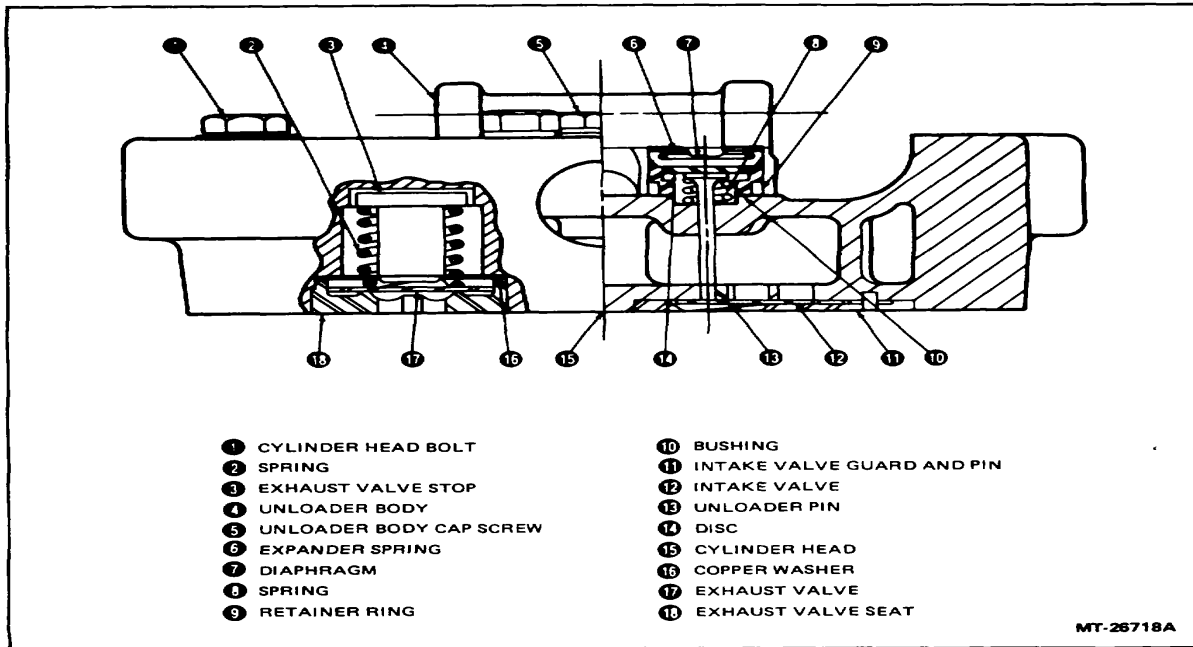

Figure 6 - Cross Section of Cylinder Head
- NOTE - Refer to Figure 6 during steps 7, 8 and 9.**